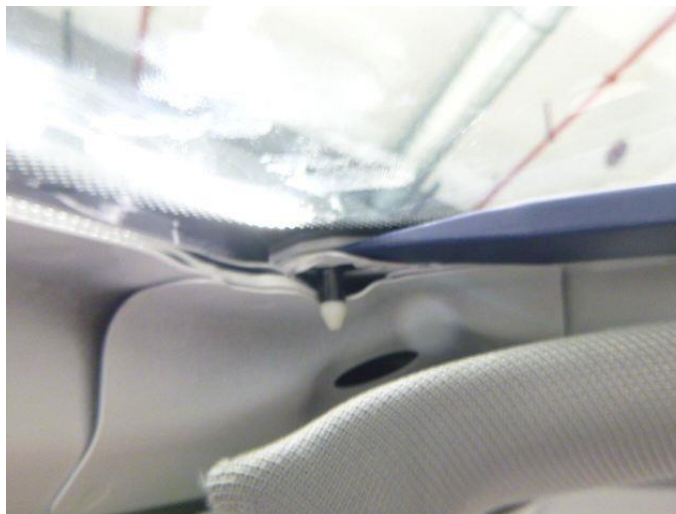

Figure 1. Increase the distance between plastic pin and metal lug.
1. If the noise occurs on the windshield in the A pillar area, remove the sun visor and the A pillar trim according to the repair manual. Once you can see the plastic pin and the metal lug which is in the plastic pin as shown in the illustration. Increase the distance between plastic pin and metal lug with a plastic wedge by bending down the metal lug by 1-2mm (Figure 1).